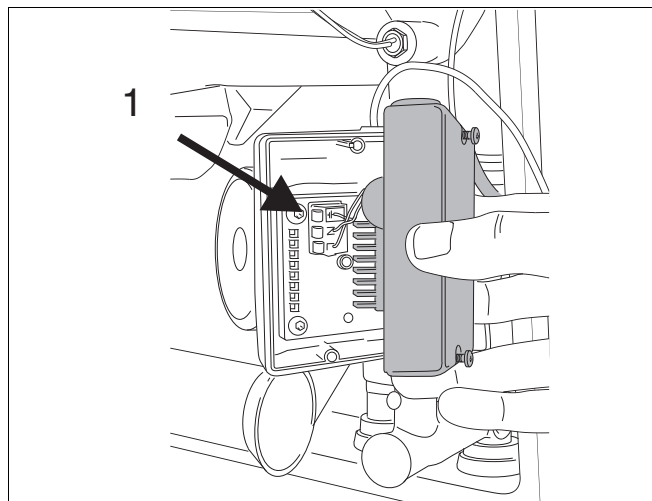

fig. 63 Cable modulating pump
- Loosen cable (fig. 63, item 1).